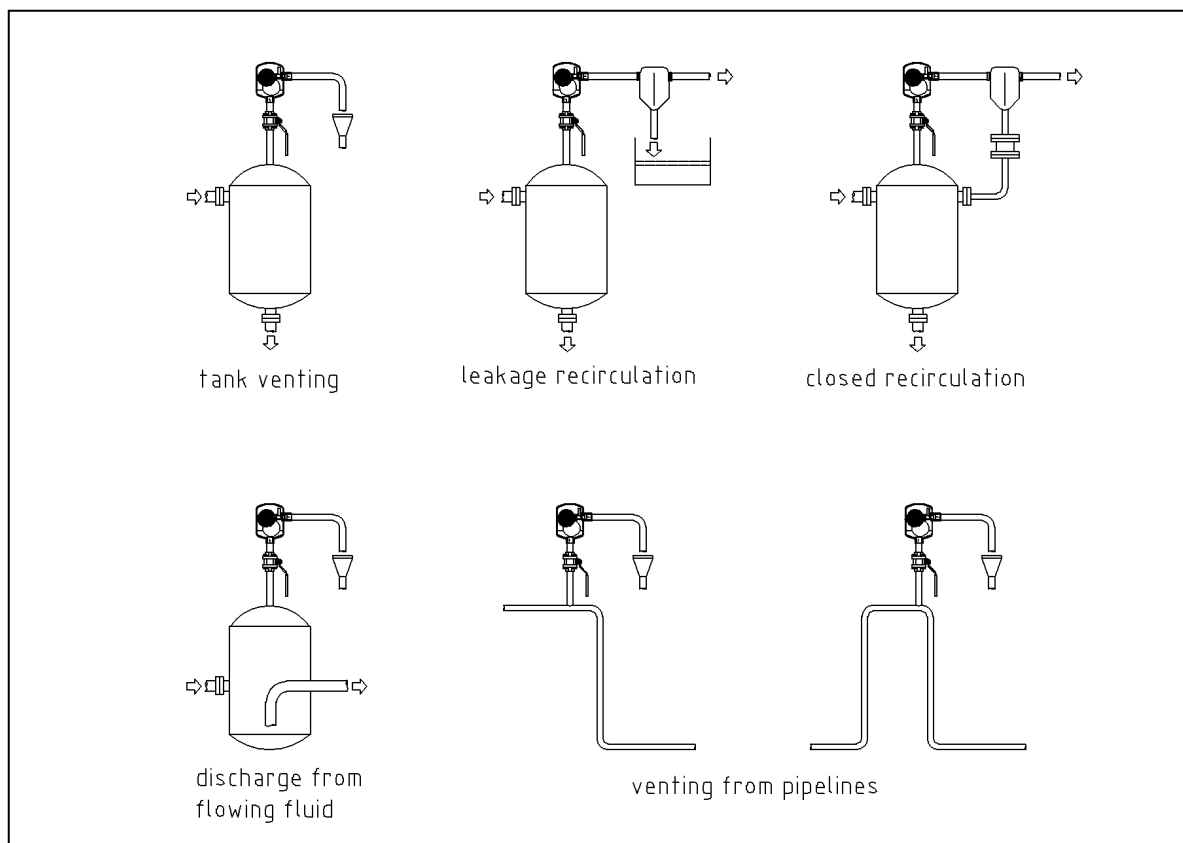

Fig. 3: Examples of installation of 8064
- + Since it is a metallic valve seat, slight leakage of drops cannot be avoided. A collecting line must be provided if necessary (see examples of installation in Fig. 3) and depending on the hazards due to the operating medium.
- + Installation according to Fig. 3 via a vertical rising pipe at high point in system